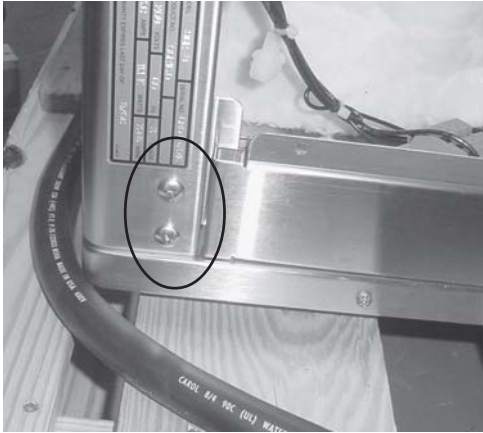

Figure 1
1. Using a Phillip's head screwdriver, remove the 8, 1/4-20 x 1 in. screws in the corners of the unit. Figure 1.